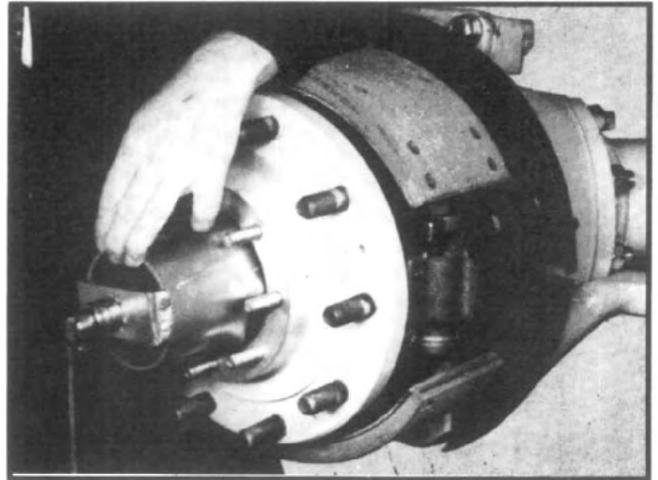

Fig. 4
7. Remove the wheel bearing lock nut (See fig. 4, Page 4) and lockwasher from spindle. Loosen wheel bearing adjustment nut.
8. Tighten wheel bearing adjusting nut while turning the hub, back off $\frac{1}{2}$ turn and then tighten to 50 ft. lbs. torque. (See fig. 4, Page 4.) Back off $\frac{1}{4}$ turn. Install the wheel bearing lockwasher with tang in the spindle keyway and one side or the other toward the bearing locknut in such a way as to fit over dowel.